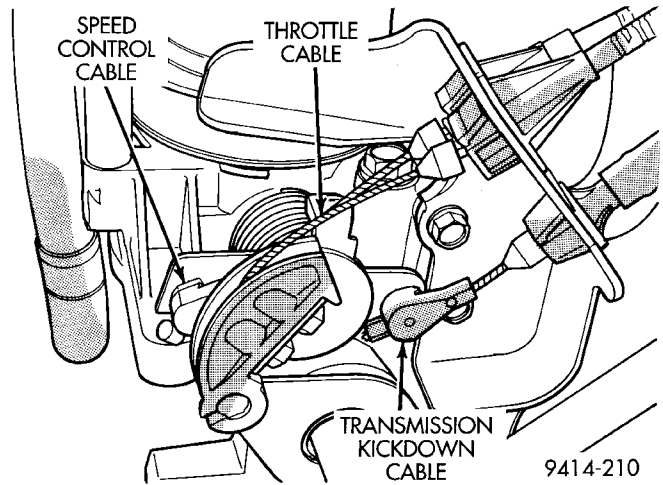
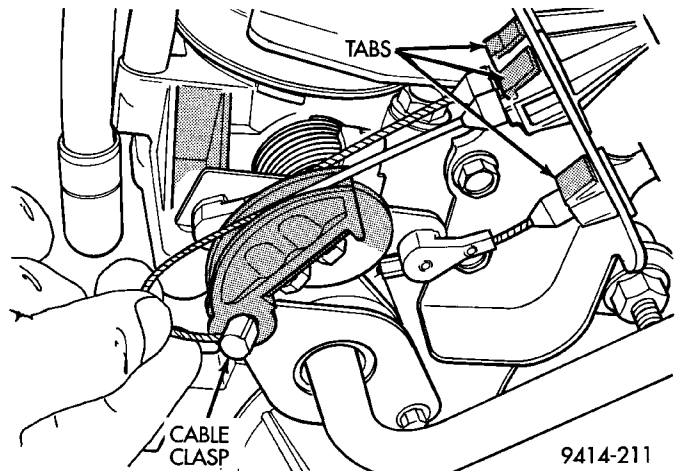

Fig. 87 Throttle Body Cables Attachment to Throttle Body
Fig. 88 Disconnecting Throttle Cable
(1) Remove throttle cable cover.
(2) Remove throttle body cables using the following procedures.
(3) Remove throttle cable from throttle body cam (Fig. 87) and (Fig. 88).
(4) Compress the retaining tabs on the cable and slide cable out of bracket (Fig. 88).
(5) Hold throttle lever in the wide open position. Using finger pressure only, remove kickdown cable by PUSHING connector off the lever nail head (Fig. 87) and (Fig. 89). DO NOT try to pull connector off perpendicular to the lever.
(6) Compress the retaining tabs on the cable and slide cable out of bracket (Fig. 88).
(7) if equipped with speed control, hold throttle lever in the wide open position. Using finger pressure only, remove speed control cable by PUSHING connector off the lever nail head (Fig. 87) and (Fig. 90). DO NOT try to pull connector off perpendicular to the lever.
- (8) Compress the retaining tabs on the cable and slide cable out of bracket (Fig. 88).
- (9) Remove 2 screws holding cable mounting bracket and support bracket.
- (10) Remove TPS connector.
- (11) Remove Idle Air Control motor connector.
- (12) Remove EVAP purge hose.
- (13) Remove throttle body mounting bolts. Remove throttle body.
(6) Install throttle body cables using the following procedures.
(7) From the engine compartment, rotate the throttle lever forward to the wide open position and install throttle cable clasp (Fig. 88).